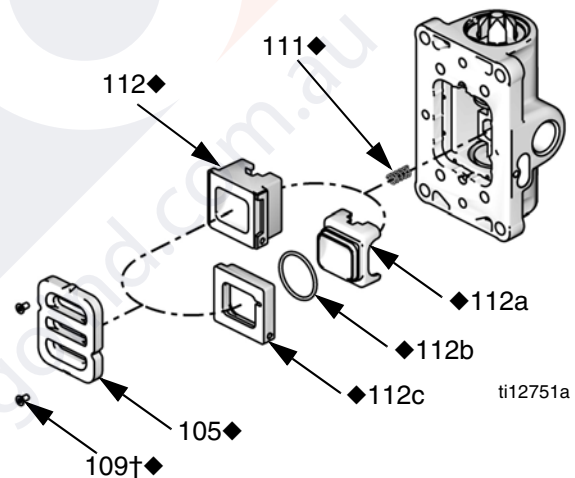

FIG. 5: Air plate removal
2. See FIG. 5. Use a 2 mm or 5/64 hex key to remove two screws (109†♦). Remove the valve plate (105♦).